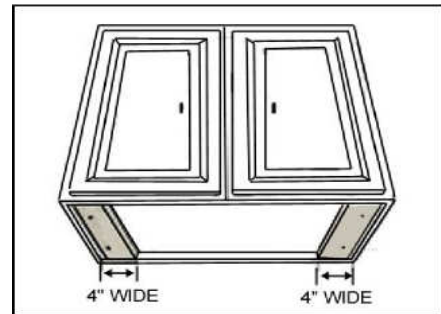

Figure 2
- To install hood under a cabinet with recessed bottom, attach 4-inch wide wood filler strips (not included) on each side. Refer to Figure 2.